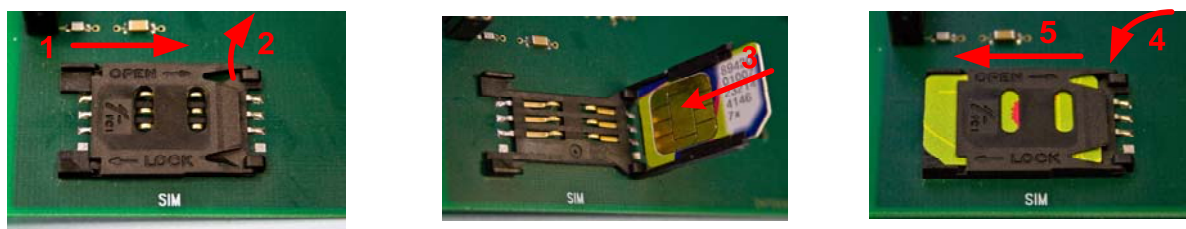

Fig. 8 Steps for the insertion of a SIM card
Before the insertion or removal of the SIM card, the holder (see Fig. 8) must first be mechanically released by moving the upper holder element to the right (1 – OPEN direction) and by tilting the whole upper element to the right (2). The correct orientation of the inserted SIM card is secured with a bevelled edge on both the card and the holder. After inserting the card by moving it in the holder's upper element (3), the holder must again be closed (4) and secured by moving the holder's upper element to the left (5 – LOCK direction).